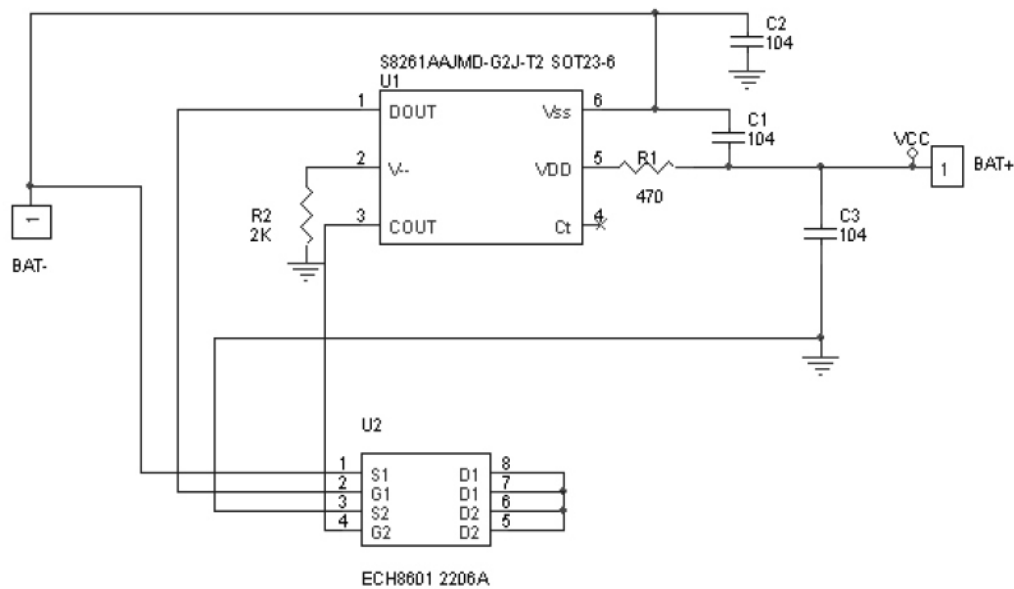

Figure3.2.8.1 Battery protection circuit
1. Battery protection board is installed on Li-battery to protect Li-battery from damaging by short circuit, over discharge and over charge. Li-battery and battery board are called Li-battery core component. Principle chart of battery protection board is shown in figure3.2.8.1: